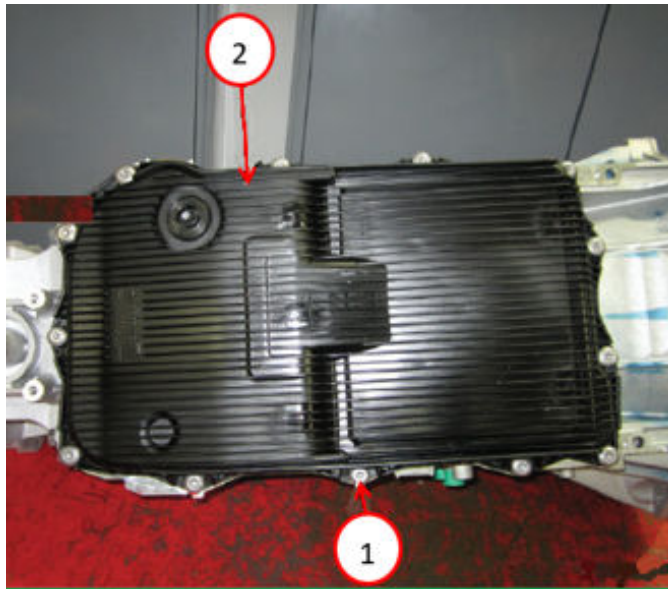

Fig. 50
73. Position the transmission oil pan and gasket Fig. 50.
74. Install the 13 transmission oil pan bolts and tighten to 10 N-m (89 In. Lbs) Fig. 50.